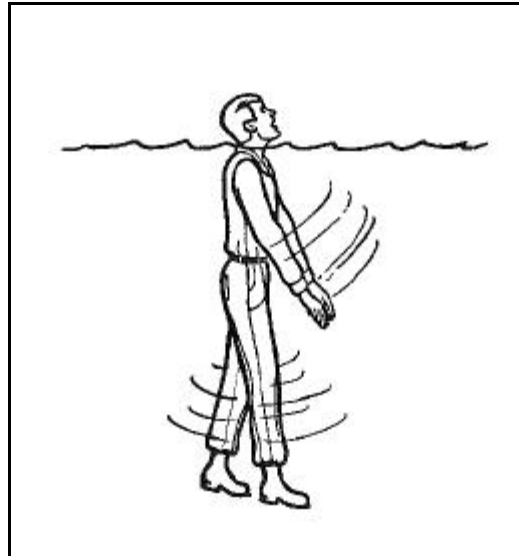

Figure 10-7. Inhalation
- **Step 4 --Inhalation.** As the head becomes vertical, the swimmer presses his arms downward and brings his legs together (Figure 10-7). The air is then inhaled through the mouth. The action of arms and legs should be done slowly.